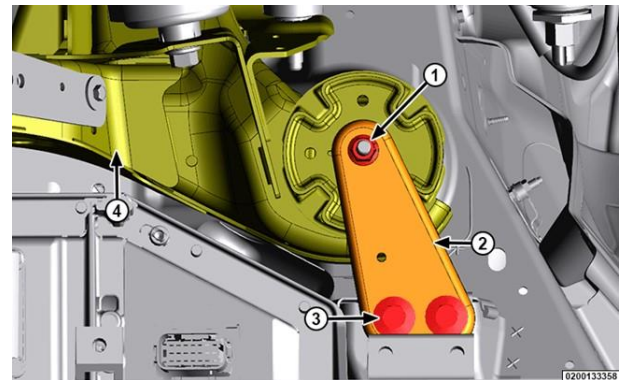

Figure 20 – Cradle Mount Bracket
49. Right side of vehicle: Remove the cradle bracket nut (1) (Figure 20).
50. Remove the cradle mount bracket bolts (3) and remove the brackets (Figure 20).